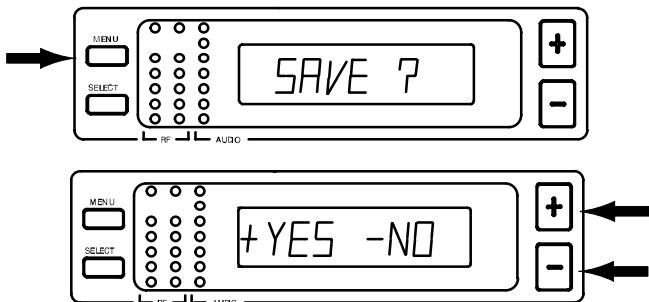
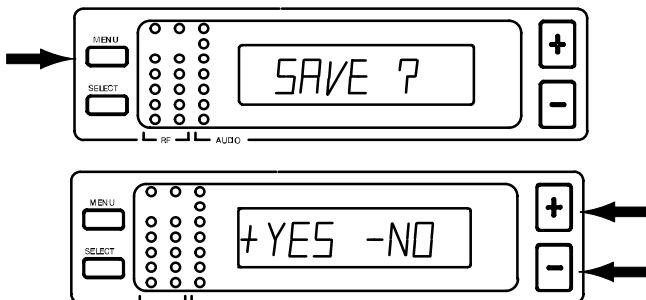

FIGURE 15
FIGURE 20
7. When the new Group/Channel has been completely entered, press the MENU button. "SAVE?" appears on the display, followed by "+ YES - NO". Press the "+" button to save the new Group/Channel setting or press the "-" button to return to the original setting. See Figure 15.
5. Press the MENU button to enter the desired frequency, as shown in Figure 15. SAVE? appears on the display, followed by "+ YES – NO". Press the "+" button to save the new frequency, or press the “–” button to return to the original setting. See Figure 20.